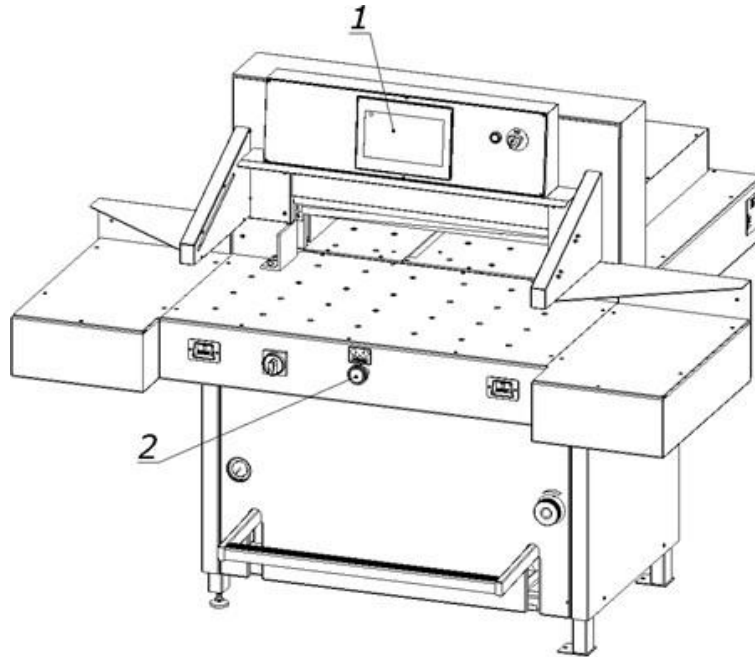

Figure 17a. The adjustment value is displayed on the screen (1) and the switch is used for fine tune adjustments (2)
Determining the position of the back gauge is carried out using the touchscreen (1) and switch (2), figure 17a & 17b.